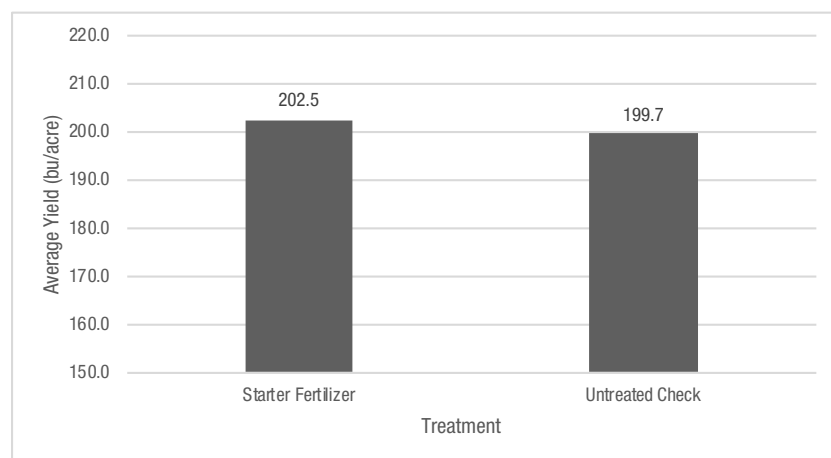

Figure 1. Effect of starter fertilizer on corn yield compared to untreated check in 2020.
- There was no significant yield difference between plots that received starter fertilizer and the untreated checks in this demonstration trial (Figure 1). This agrees with previous testing at the Bayer Learning Center at Monmouth, IL.